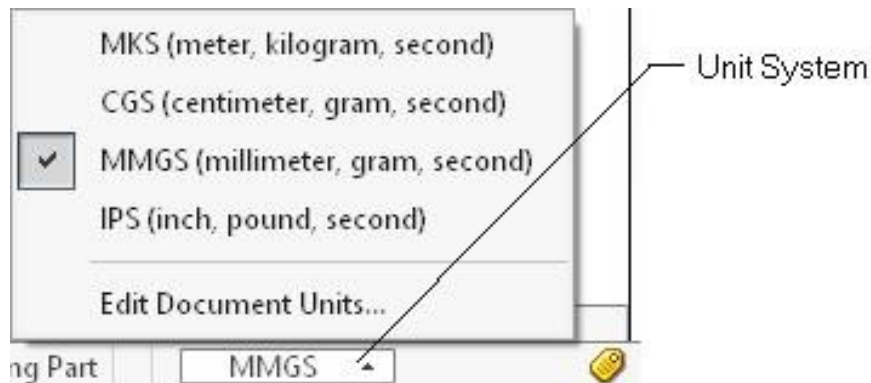

Figure 2-24 The flyout showing the currently selected unit system
1. Click on the **Unit system** that is located in the Status Bar; a flyout is displayed with a tick mark next to the unit system of the current document, refer to Figure 2-24.